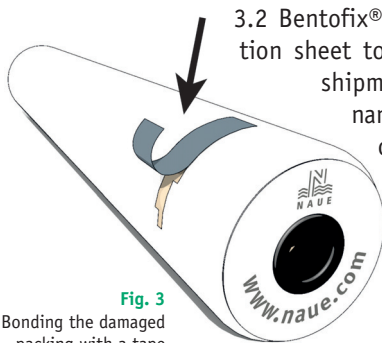

Fig. 3 Bonding the damaged packing with a tape
3.3 In the unlikely case of a damage to the wrapping, the damaged area is either fixed with tape (fig. 3) or is fully replaced.
8.6 In the unlikely case of damage to the wrapping, the damaged area is either fixed with tape (fig. 3) or is fully replaced.